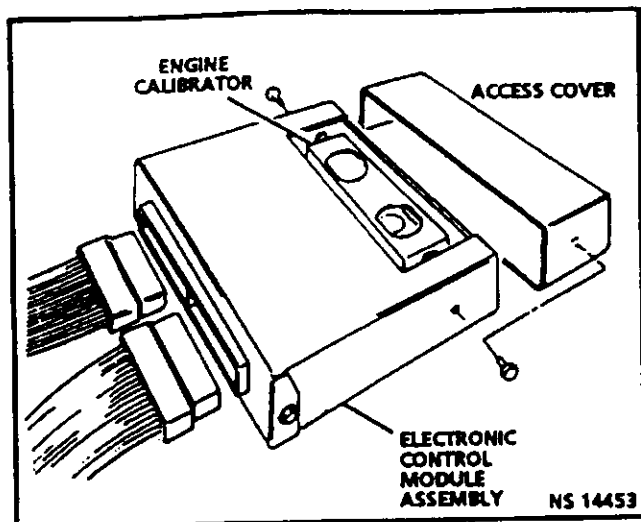

Figure 3.1-3 Electronic Control Module Engine Calibrator Access Cover
- Engine calibrator access cover. (See Figure 3.1-3.)
**LOCATION:** Under access cover of electronic control module. (Figure 3.1-3).